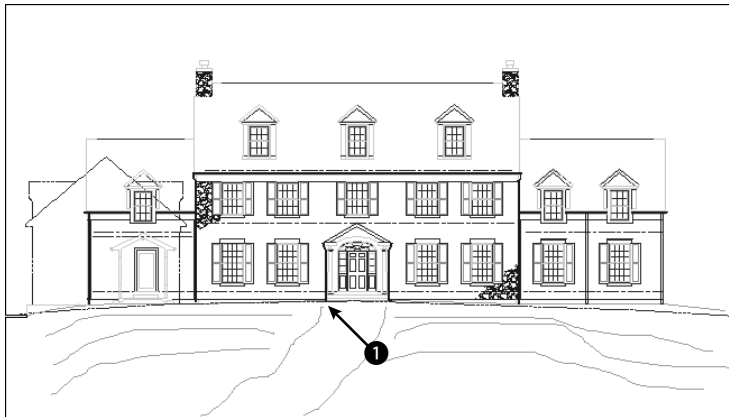

Figure 16-38: A sketched path and contours.
2. Save the file as `ab16-08.dwg` in your AutoCAD Bible folder. It shows the front elevation of a house. You'll add the sketched path and contours, as shown in Figure 16-38.
5. At the Sketch. Pen eXit Quit Record Erase Connect. prompt, move the cursor to ① in Figure 16-38. Click the pick button to put the pen down and draw the first line of the path. Click the pick button to put the pen up.
6. Use the same technique to draw the other lines in Figure 16-38. If you make a mistake, type **q** ↵ to quit and then start again.